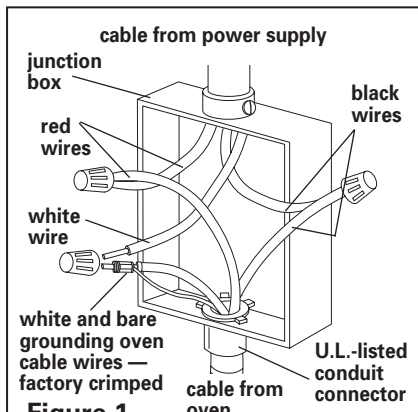

Figure 1
7. Connect the factory-cripped bare and white oven cable wires to the neutral (white) wire in junction box. See Figure 1.